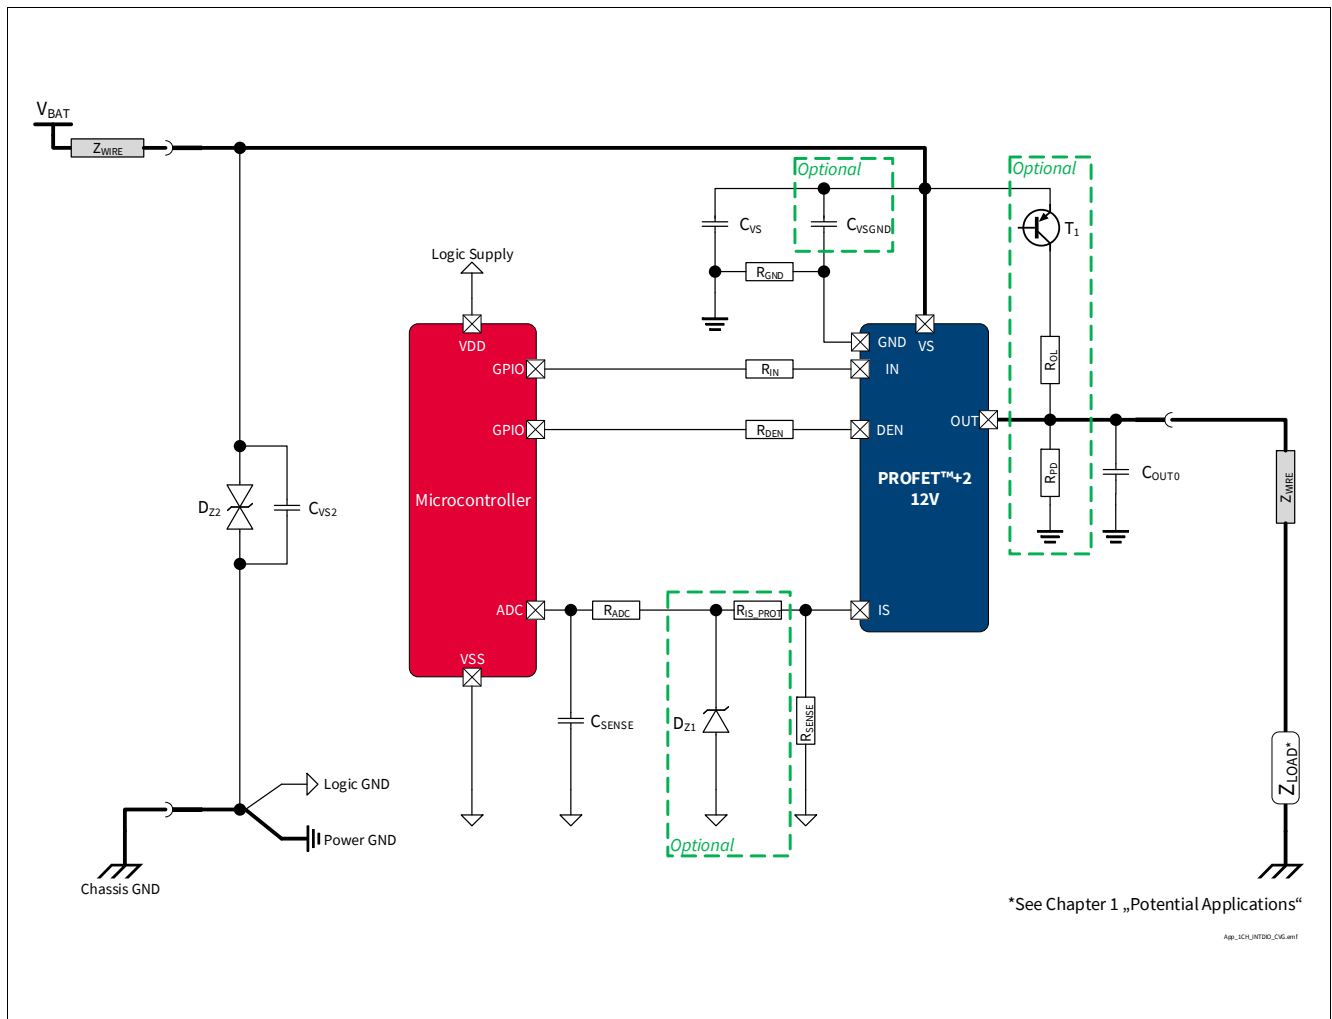
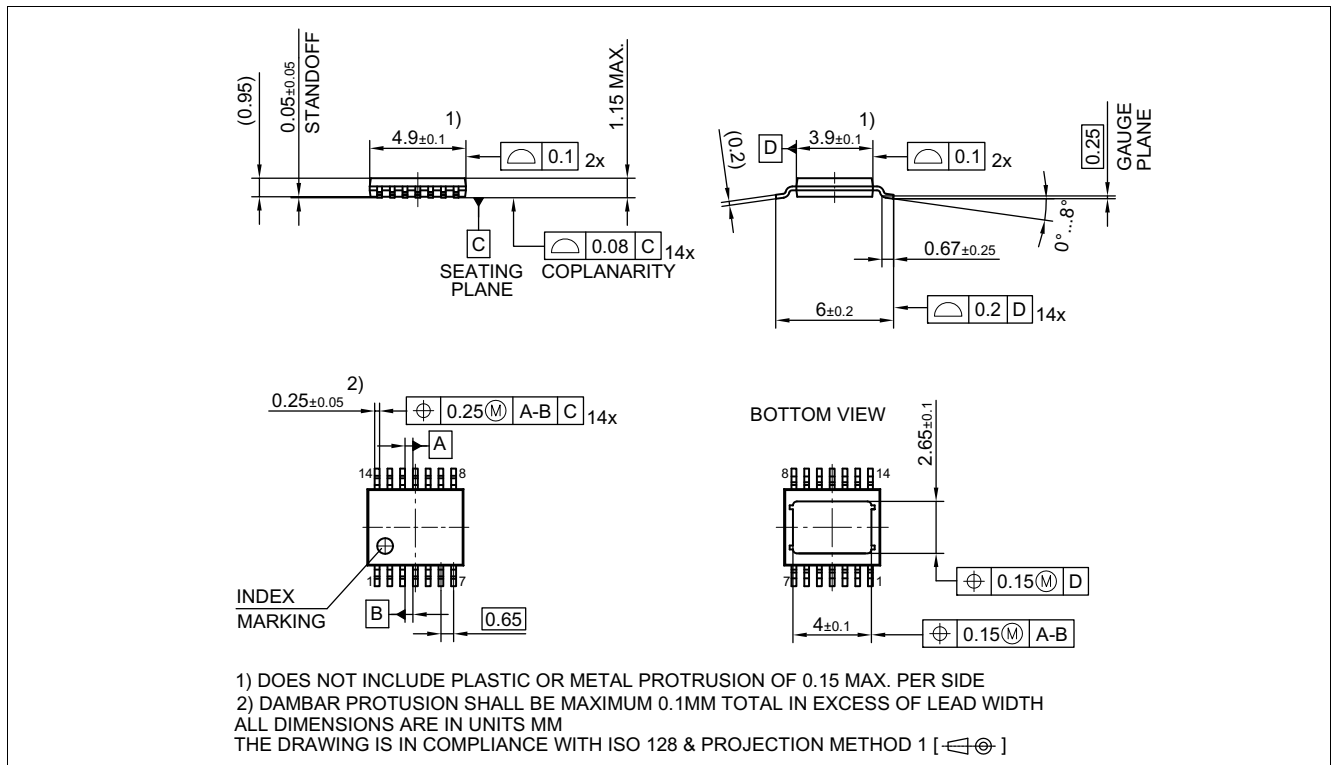
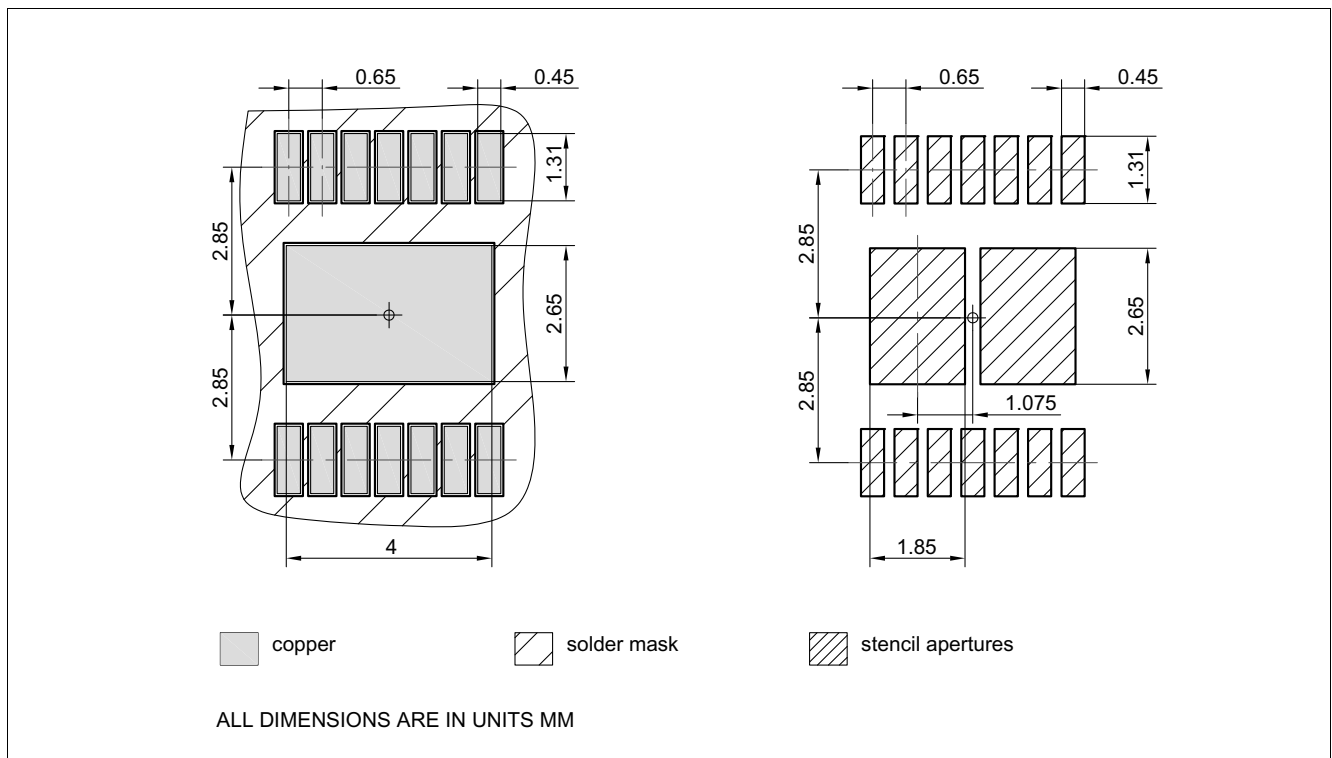

Figure 37 BTS7004-1EPP Application Diagram
Figure 38 PG-TSDSO-14 (Thin (Slim) Dual Small Outline 14 pins) Package Outline
Figure 39 PG-TSDSO-14 (Thin (Slim) Dual Small Outline 14 pins) Package pads and stencil
1.03, 2019-10-15	<p>P_6.5.21.1 updated (Typ.: 0.01 μA \rightarrow 0.05 μA) P_8.7.11.1, P_8.7.11.7, P_8.7.11.8 updated (added in Note or Test Condition: link to Figure 24) P_7.5.11.5 updated (added in Note or Test Condition: see Figure 18) P_7.5.11.12 updated (added in Note or Test Condition: see Figure 20; deleted unnecessary space in Symbol: $dV_{OUT} / dt \rightarrow dV_{OUT} / dt$) P_8.7.11.6 updated (added in Note or Test Condition: see Figure 25) P_9.7.11.1 updated (added in Note or Test Condition: see Figure 32) Figure 1, Figure 37 updated P_4.3.0.7 added Table 22 updated Chapter 5.1 updated (added: see Chapter 10 for the complete application setup overview)</p>
1.01, 2019-02-05	<p>Figure 9, Figure 10 updated P_7.5.11.10 updated (Min./Typ./Max.: - / - / 10 μA \rightarrow - / - / 15 μA) Page 1: updated (figure product) Table 22 updated (punctuation) Chapter 9.3, Chapter 9.3.1 updated (typo) Page 1: updated (Package PG-TSDSO-14-22 \rightarrow Package PG-TSDSO-14) Figure 38 updated (PG-TSDSO-14-22 (Thin (Slim) Dual Small Outline 14 pins) Package Outline \rightarrow PG-TSDSO-14 (Thin (Slim) Dual Small Outline 14 pins) Package Outline) Figure 39 updated (PG-TSDSO-14-22 (Thin (Slim) Dual Small Outline 14 pins) Package pads and stencil \rightarrow PG-TSDSO-14 (Thin (Slim) Dual Small Outline 14 pins) Package pads and stencil) Table 1 updated (Parameter: Minimum Overvoltage protection ($T_J = 25\text{ }^\circ\text{C}$) \rightarrow Minimum Overvoltage protection ($T_J \geq 25\text{ }^\circ\text{C}$)) Table 1 updated (Symbol: $I_{VS(OFF)} \rightarrow I_{VS(OFF)_85}$) P_6.5.21.1 updated (Symbol: $I_{VS(OFF)} \rightarrow I_{VS(OFF)_85}$) P_6.5.21.2 updated (Symbol: $I_{VS(OFF)} \rightarrow I_{VS(OFF)_150}$) P_4.2.11.3 updated (Note or Test Condition: \rightarrow -) Figure Application Diagram, Figure 29, Figure 37 updated P_4.1.0.21, P_4.1.0.22, P_4.1.0.23, P_4.1.0.24 updated (footnote ESD standards) Table 1 updated ($R_{DS(ON)} \rightarrow R_{DS(ON)_150}$), ($V_{DS(CLAMP)} \rightarrow V_{DS(CLAMP)_25}$) Chapter 8.5.2 updated (phrasing) Chapter 6.4, Chapter 7.5, Chapter 8.7, Chapter 9.6 updated (added conditions) Figure 28 updated (Over Load \rightarrow Overload, deleted bow) P_9.6.4.8, P_9.6.4.9 updated (removed line before the footnote)</p>